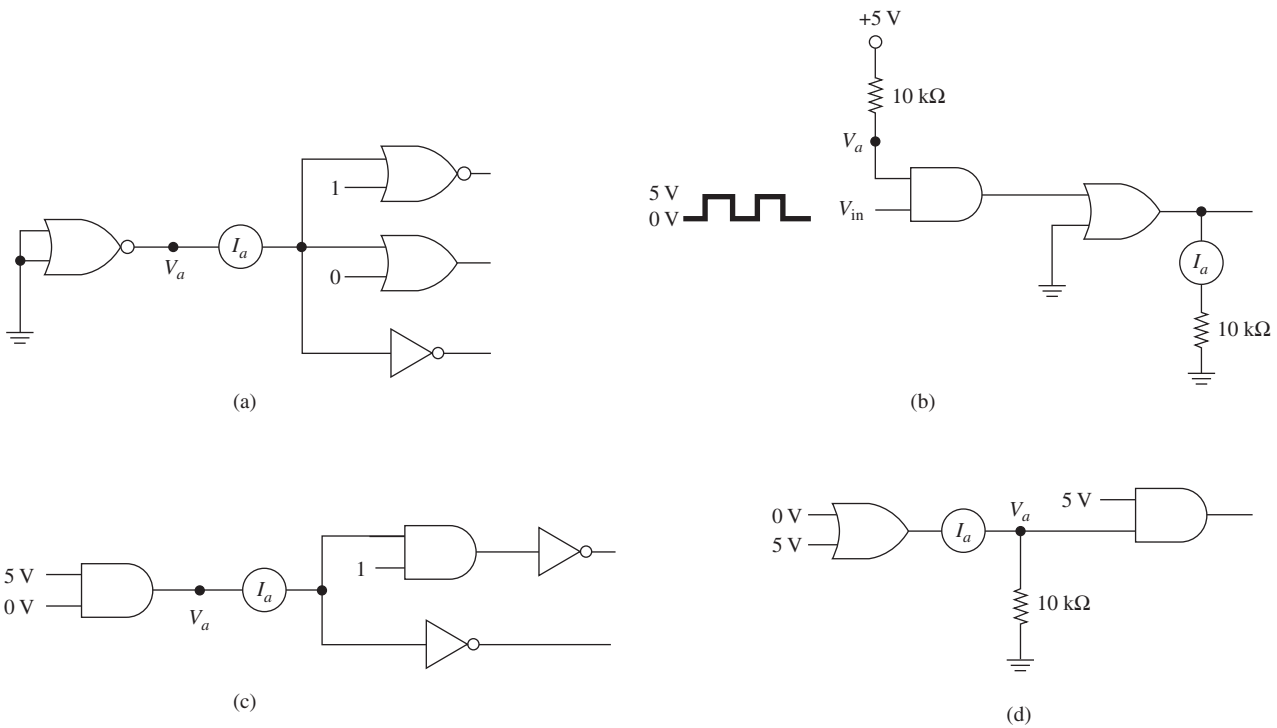

Figure P7
7. (a) Find V_a and I_a in the circuits of Figure P7 using the following specifications: